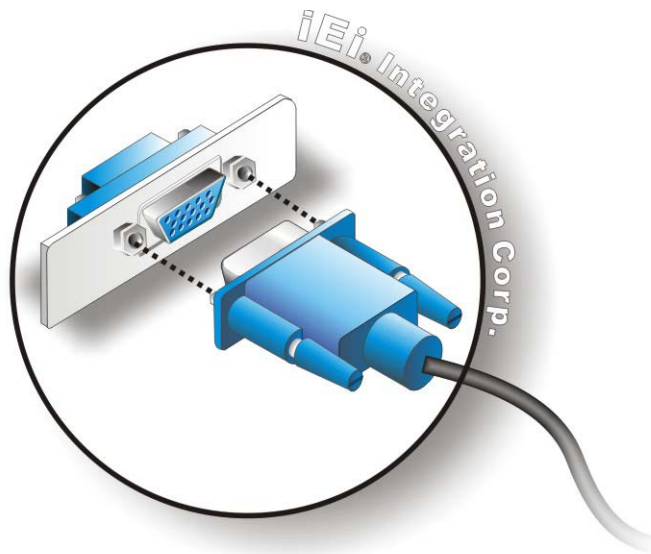

Figure 3-31: VGA Connector
- Step 3: Insert the VGA connector** Once the connectors are properly aligned with the insert the male connector from the VGA screen into the female connector on the UPC-V315-QM77. See **Figure 3-31**.